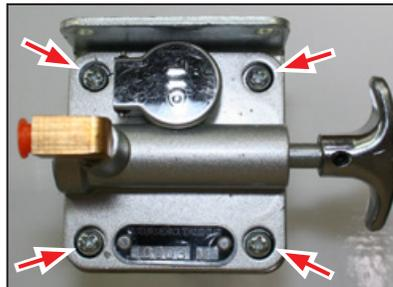

Figure 2.23
2. Reverse plunger as shown in **Figure 2.23** and reinstall screws.